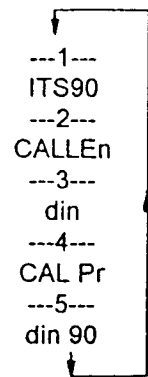

Figure 4-5. Temperature Selection Scrolling Menu
- iv) If no multiplexer is connected, or after the multiplexer channel is selected, the display indicates the 5 data entry options sequentially as shown in Figure 4-5.